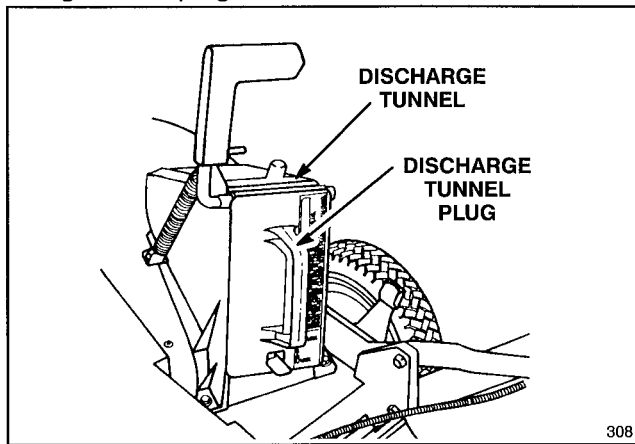

Figure 31
**1. Rear Bagging Kit (Model 59174 for self-propelled models, Model 59179 for hand push models)**—Install discharge tunnel and rear mounting grass bag to convert Recycler® II Super Pro® mower to a rear bagging mower (Fig. 31). Includes discharge tunnel plug.